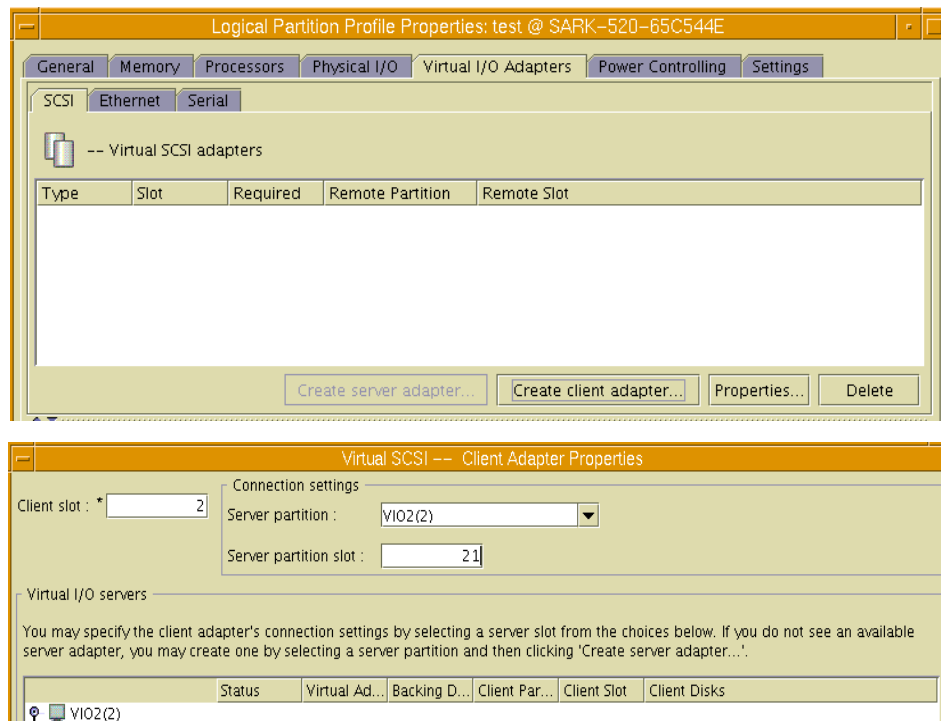

Figure 4-25 Create Virtual SCSI on VIO client
- Once you have completed the VIO server's profile, proceed to the VIO client's profile. The steps involved are very similar. You click on the "Create client adapter" button instead. Figure 4-25 illustrates the Virtual SCSI on the client.